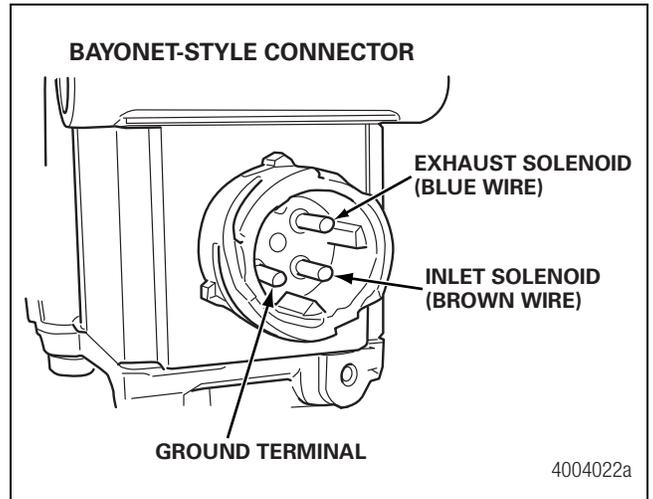

Figure 3.16
- Check modulator valve by itself for resistance. Figure 3.16 and Figure 3.17.